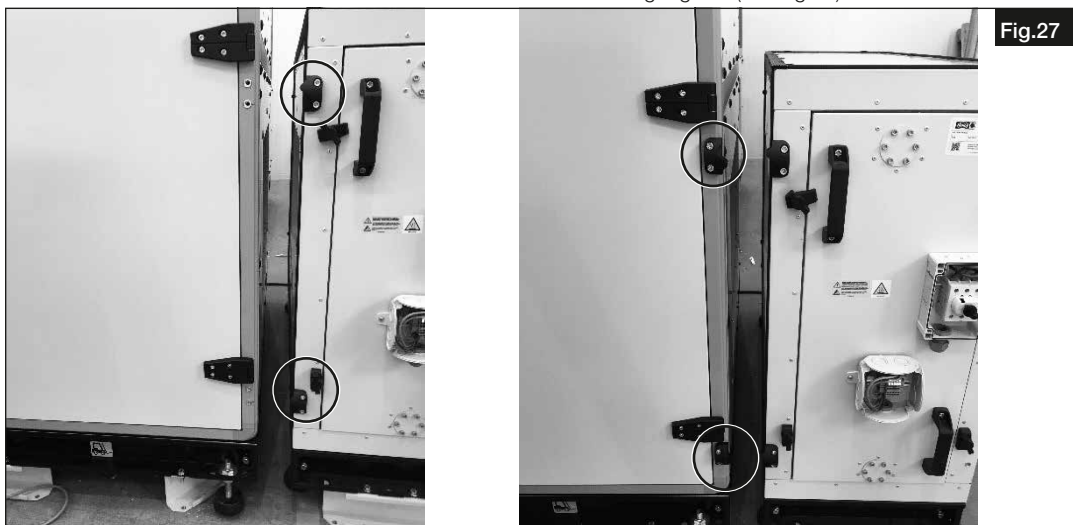

Fig.27
5. Mount the module connector to the AIR1 unit and install the heating register (see Fig.27).